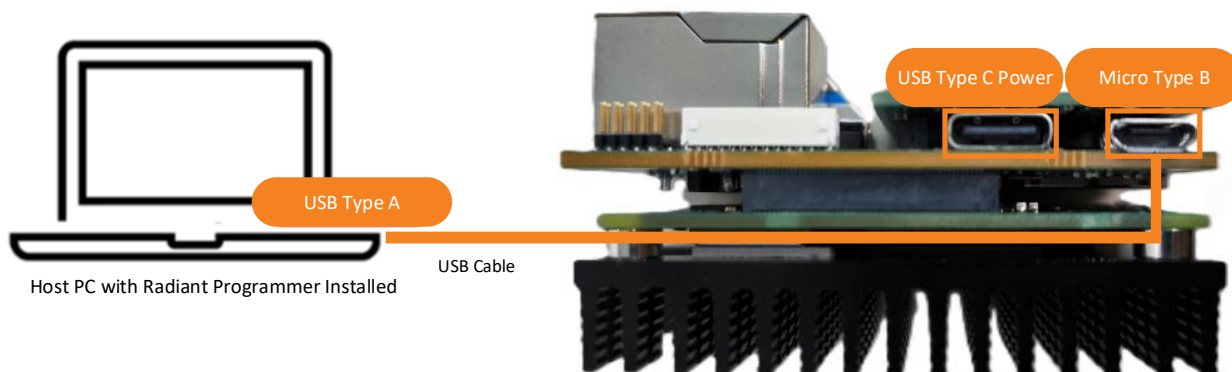

Figure 5.29. Hardware Setup for Bit File Programming
1. Connect the board to the PC using a USB Type A to Micro Type B cable, as shown in Figure 5.29. Connect the power adapter to the Raspberry Pi CM5 board and power on the adapter.